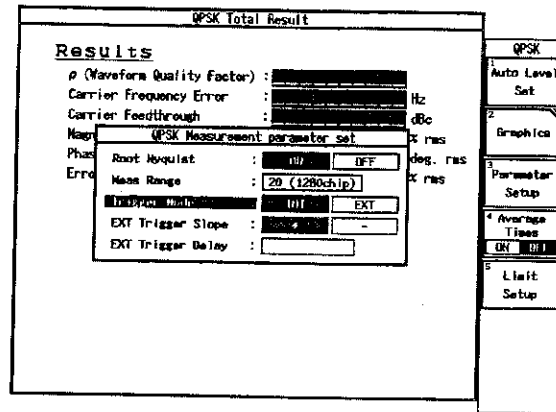

Figure 3-35 Setting of Parameter for Simplified Performance Check
3. On the R3267/3273, set measurement parameter as shown Figure 3-35.